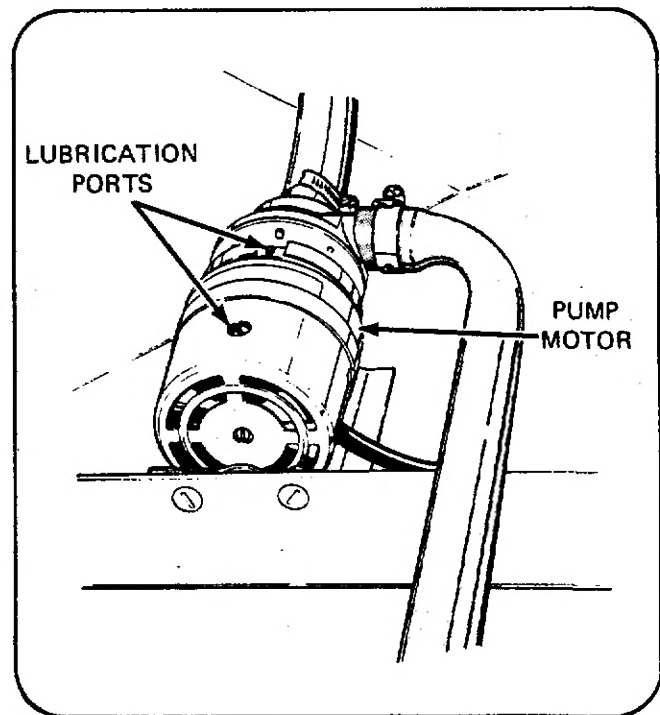

Figure 13
- f. Lubricate pump motor with Speed Queen No. 20605 Hi-Temp Lube. (See *Figure 13* for location of lubrication ports.) Do not over-lubricate.